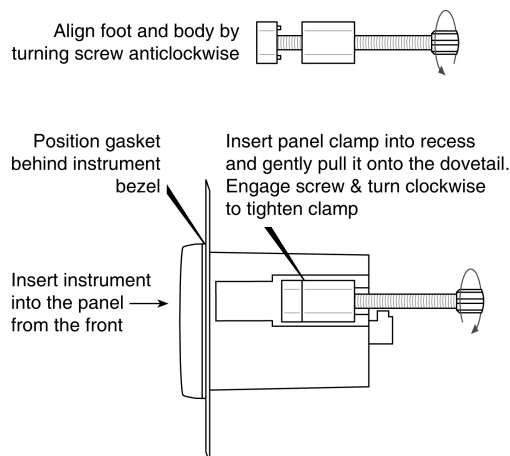

Fig 5 Fitting panel mounting clamps
- Place a clamp in the recess on each side of the instrument, pulling gently to slide it onto the dovetail as shown in Fig 5. Push the knurled screw slightly forward to engage the thread and tighten by turning clockwise until it is just finger tight. When the clamps are fitted ensure that the gasket behind the front panel bezel is correctly positioned before fully tightening the clamps to secure the instrument. The maximum recommended clamp tightening torque is 22cNm (1.95 lbf in) which is approximately equivalent to finger-tight plus one half turn. **Do not over tighten.**